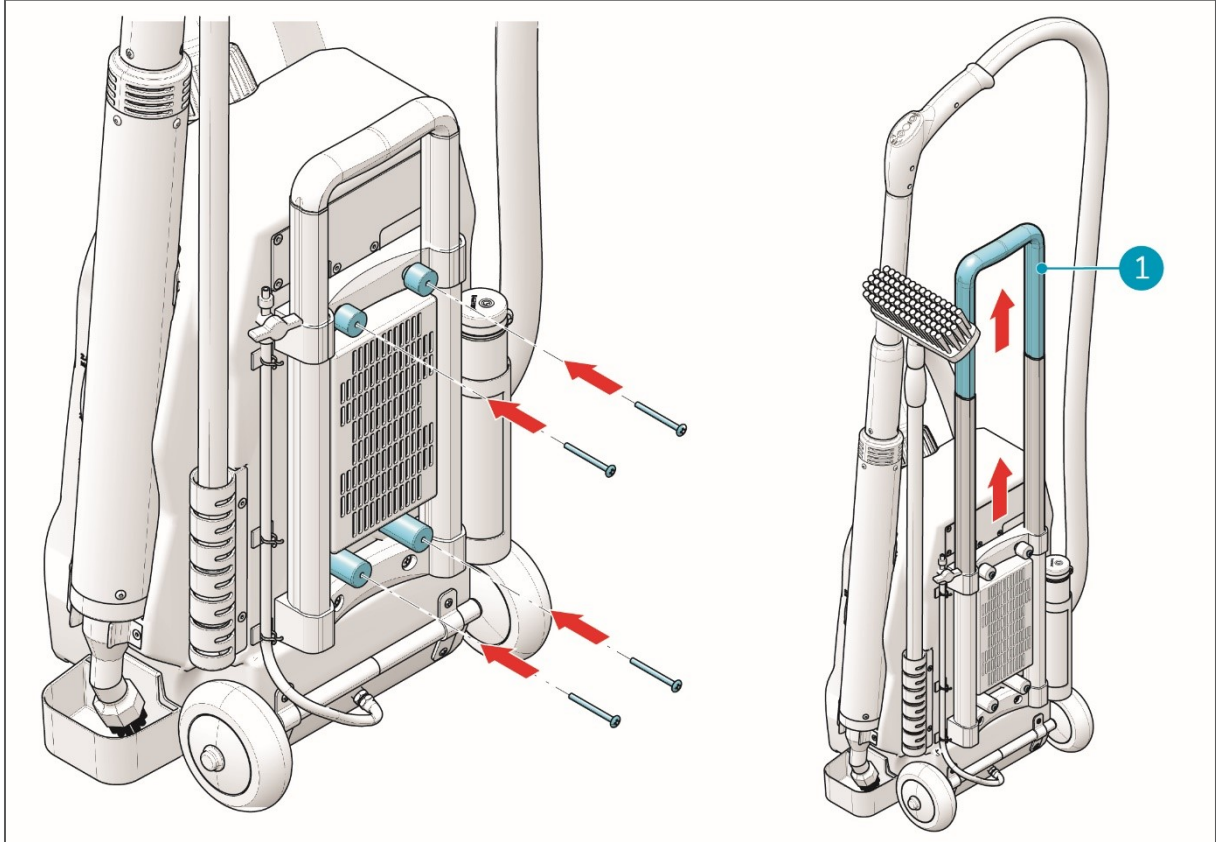

Figure 10
4. Put the four screws back in place, as these also hold the trolley handle (fig 10, pos 1).